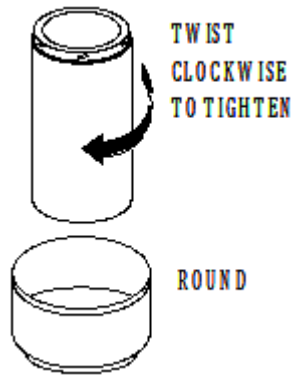

Fig.9
**7. Assemble Chimney Sections:** Lower the female end of the first Chimney Section in the Support Box (Fig 9). It will twist-lock clockwise onto the male end of the Support Box. Turn Pipe Sections firmly clockwise to lock them together. Sheet metal screws are not required, but they may be used to reinforce the connection, if desired. Use only 1/2" (or shorter) sheet metal screws. Do not penetrate the inner liner of the chimney.